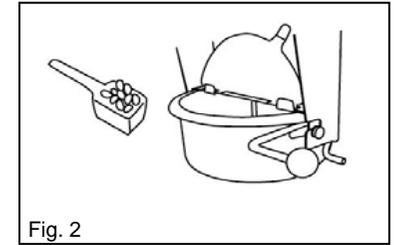

Fig. 2
- 10) Lift the lid and then pour in the kernels carefully. (Fig. 2) **Caution: Lid will be HOT!**